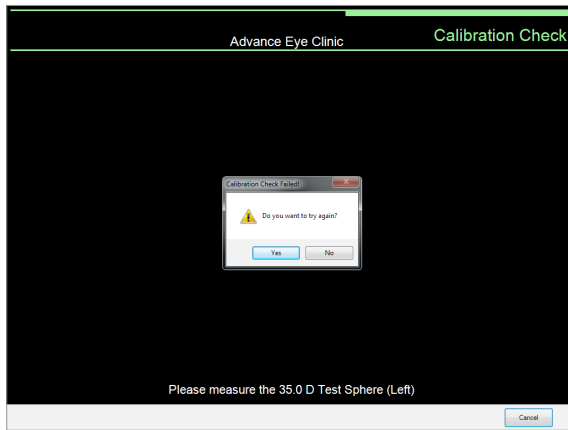

Figure 4
- If the first step fails, clean the front surface of the glass spheres on the **Test Eye** with a soft cloth and repeat the first step (Figure 4). Residual dirt or oil may cause failure.